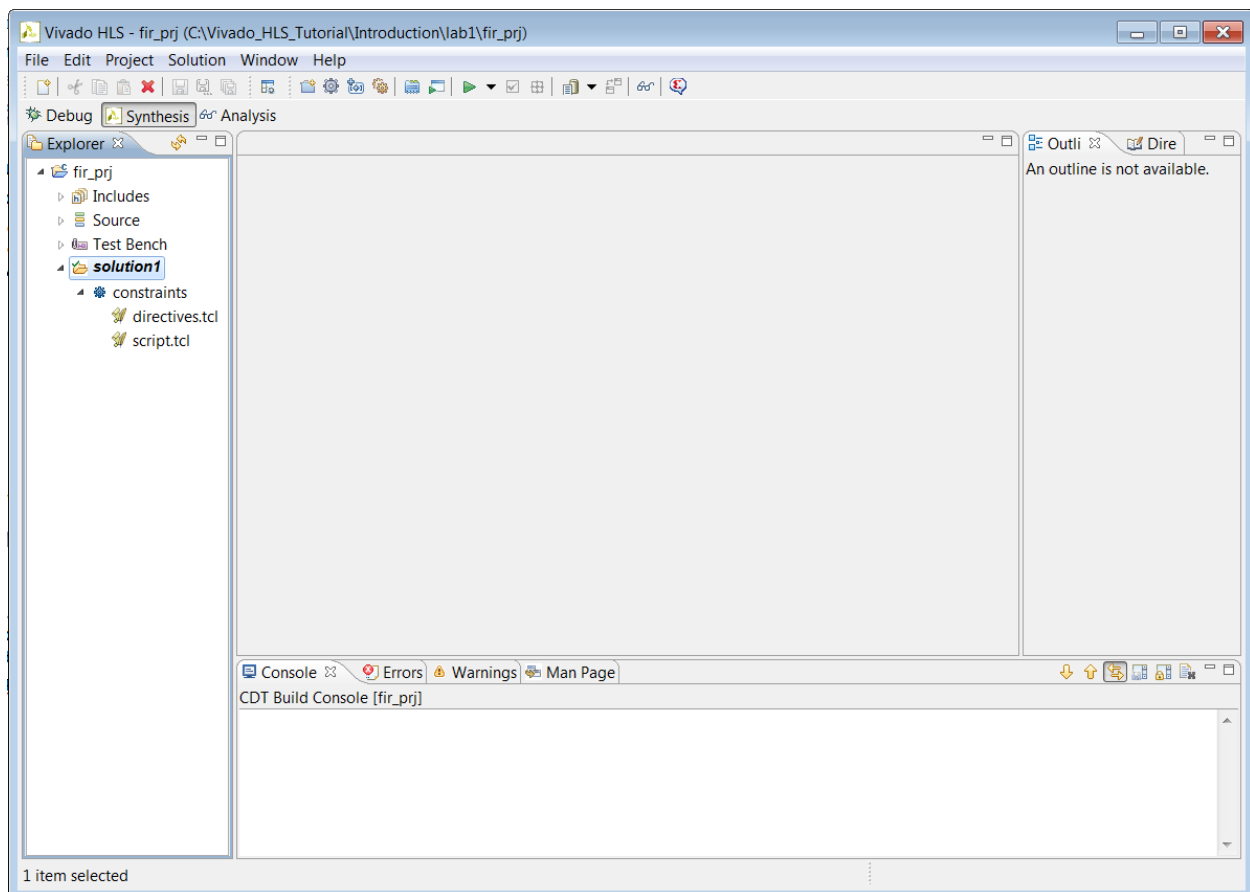

Figure 8: Vivado HLS Project
11. Click **Finish** to open the Vivado HLS project, as shown in Figure 8.